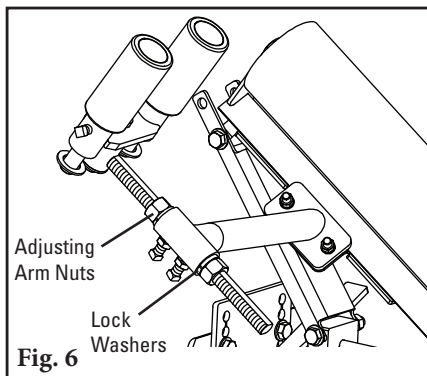
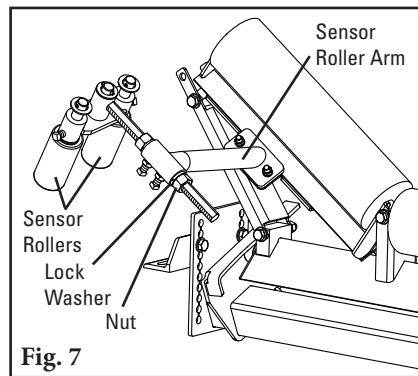

Fig. 6
Fig. 7
11. **Insert sensor rollers into the unit.** Insert the sensor roller assemblies into the sensor roller arms in the working (outward) position (Fig. 6). Assemble the lock washers and nuts finger tight, allowing the sensor rollers to hang down (Fig. 7).